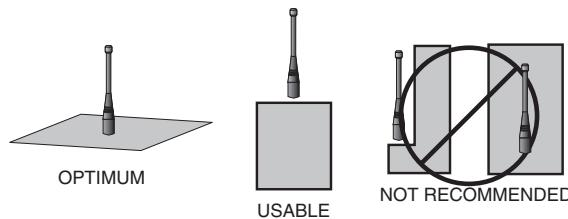

Figure 21: Ground Plane Orientation
2. Optimum performance is obtained from a  $\frac{1}{4}$ - or  $\frac{1}{2}$ -wave straight whip mounted at a right angle to the ground plane (Figure 21). In many cases, this isn't desirable for practical or ergonomic reasons, thus, an alternative antenna style such as a helical, loop or patch may be utilized and the corresponding sacrifice in performance accepted.